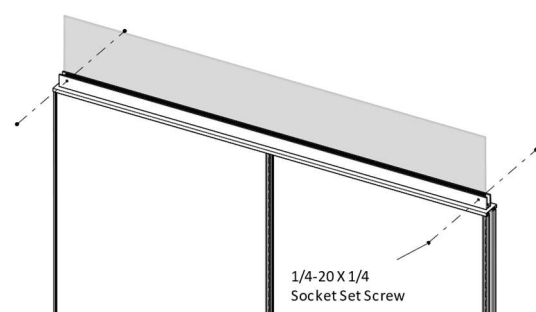

Figure 4
- Align and secure the glass/acrylic by inserting 1/4-20 X 1/4" Socket Set Screw through each of the holes on the side of the Frameless Glazed Extrusion using Allen Key driver, (Figure 4).